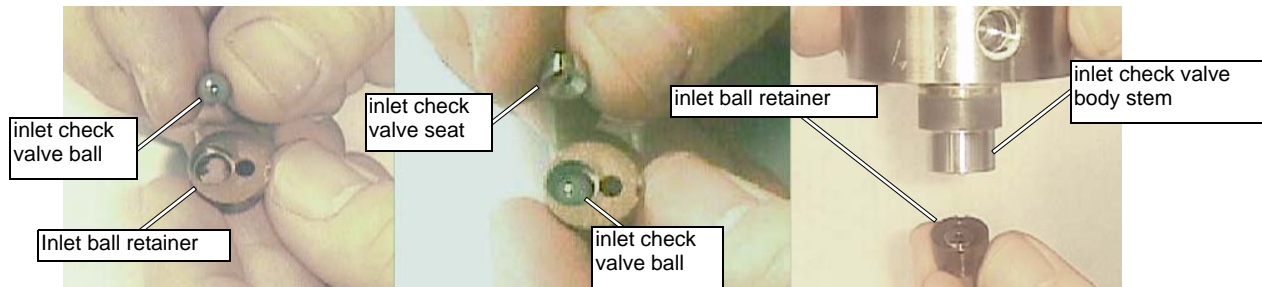

Figure 5-28: Inserting the Check Valve Ball and Check Valve Seat into the Inlet Ball Retainer
11. Next, insert the Inlet Check Valve Ball followed by the Seat into the Inlet Ball Retainer (Figure 5-28). Be sure the flat side of the Seat faces away from the ball.
12. Hold the Check Valve Body so its stem is facing down to enable insertion of the assembled Inlet Ball Retainer (Figure 5-28).